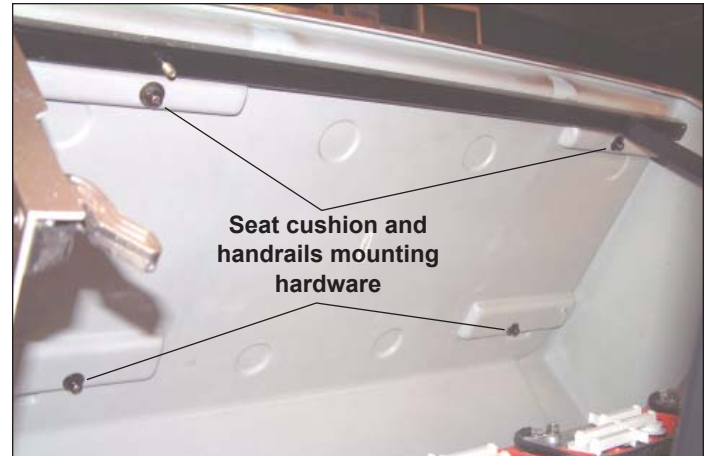

Figure 8-6. Seat Cushion and Handrails Mounting
2. Remove four nuts, washers and studs securing seat cushion and hand rails to center body (Figure 8-6).